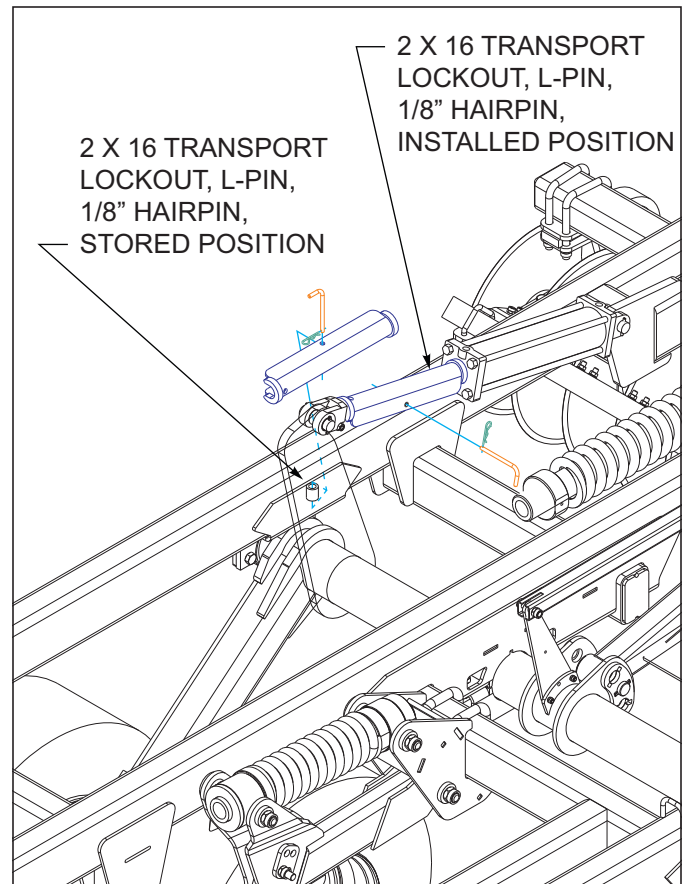

Figure 4-2: Transport Locks
1. The hydraulic system is not filled with oil and should be purged of air before transporting and field operations. Carefully hitch the Coulter Chisel to the tractor and connect the hydraulic lift hoses. Check to make sure the tractor hydraulic reservoir is full of the manufacturer's recommended oil. Slowly raise the machine, and continue to hold the hydraulic lever until all lift cylinders are fully extended. With all cylinders fully extended remove the 2 X 16 transport lockouts See Figure 4-2. Store transport lockouts as shown See Figure 4-2. Lower and raise the unit to verify that all cylinders are working simultaneously throughout the stroke. Do not loosen any hoses or fittings. Recheck tractor reservoir to make sure it is within operating limits.